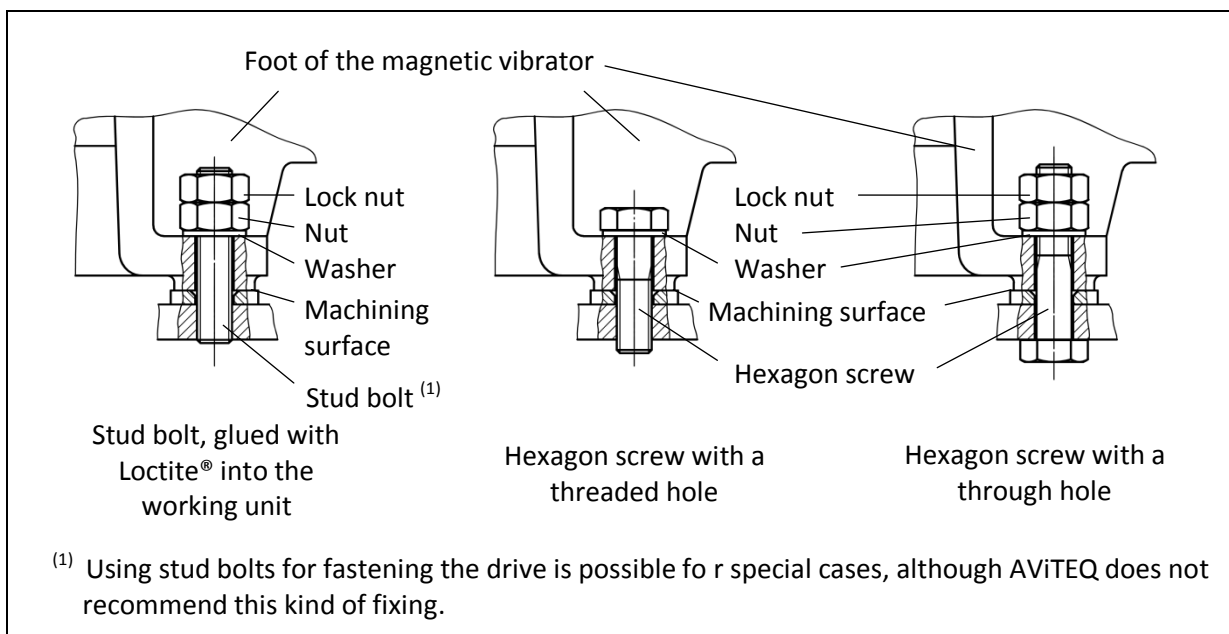

Figure 6-1 Fastening the drive
Figure 6-1 shows three possible mounting options. The most commonly used mounting option is the one using hexagon screws with threaded holes as described below.
-  Screw the magnetic vibrator onto the working unit (see figure 6-1). Tighten the fixing screws with the torque indicated in the following table.
1. Depending on the construction of the working unit, it is also possible to mount the drive by using hexagon screws with through holes or stud bolts. Use plain washers (type: washer ISO 7092 - _ - 200 HV – steel, zinc-plated or stainless steel – A2) as shown in figure 6-1 and secure each nut with a lock nut.